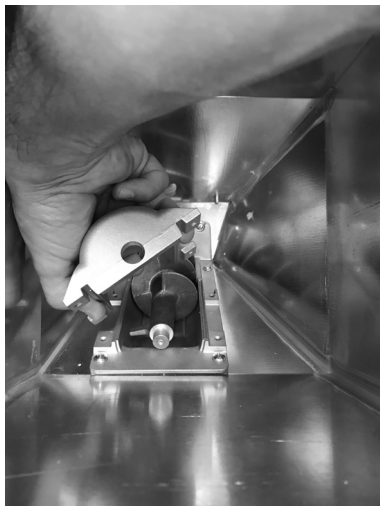

Fig. 78 - Coque removal
- Remove the coque (see **Fig. 78**).